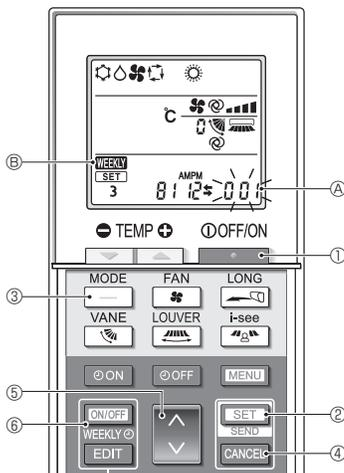

Fig. 5-9
### 5.9.8. How to disable Auto mode operation (Fig. 5-9)
1. Press the button ① to stop the air conditioner.
- If the weekly timer is enabled, press the button ⑥ to disable the timer. ( disappears.)
2. Press the button ② for 5 seconds.
- The unit enters the function setting mode. (The group model setting number ① blinks.)
3. Press the button ④.
4. Completing the settings (Fig. 5-9)
- Press the button ② for 5 seconds.